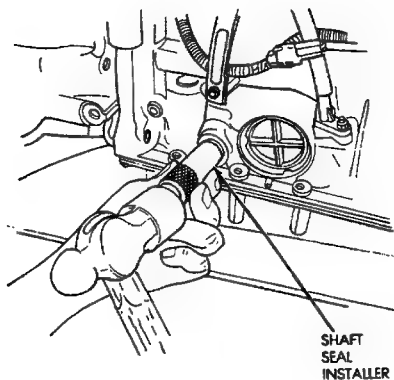

Fig. 24 Installing Manual Valve Shaft Seals
- (10) Coat replacement shaft seals with petroleum jelly and seat them in the case (Fig. 24).